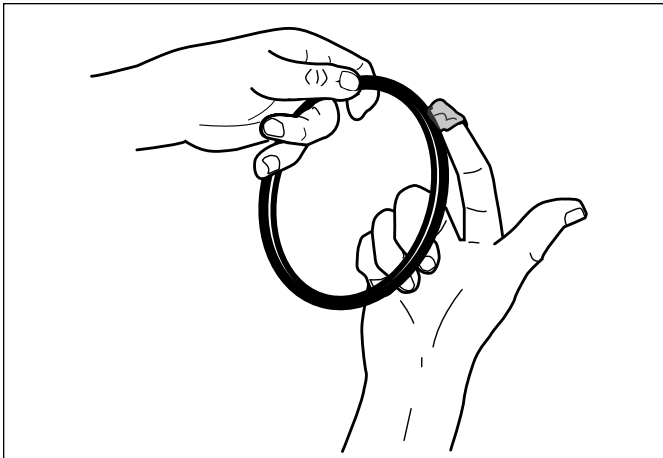

Figure 18. Lubricating O-rings
6. Lubricate all O-rings with a food-grade silicone lubricant (Figure 18). Apply a light coating of lubricant to the inside center tube at both ends of the new cartridge.